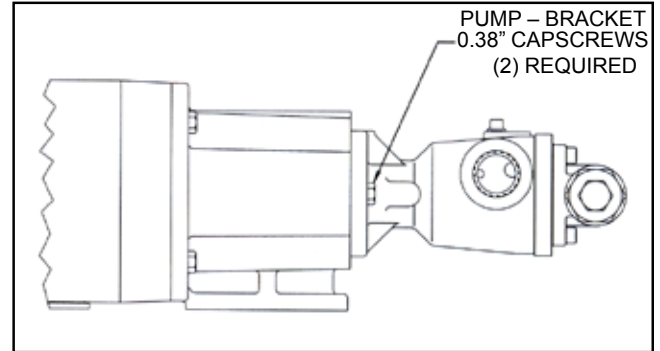

FIGURE 11
1. Remove piping to ports and remove the capscrews securing pump to bracket. See Figure 11. Support the pump with an overhead hoist if possible.